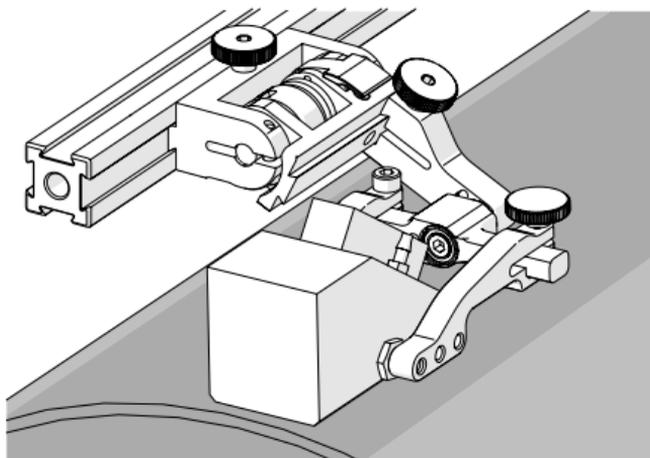

Fig. 99 - Spring loaded scan position
4. Gently lower probe holder and wedge to the scanning surface (*Fig. 99*).